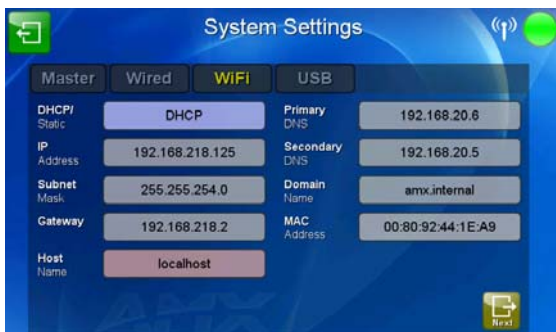

FIG. 24 System Settings page - WiFi tab
2. Select the *WiFi* tab (FIG. 24).
1. From the *Protected Setup* page, press the **Network** button to open the *System Settings* page. Wireless communication is set within the *WiFi* tab of this page (FIG. 24).